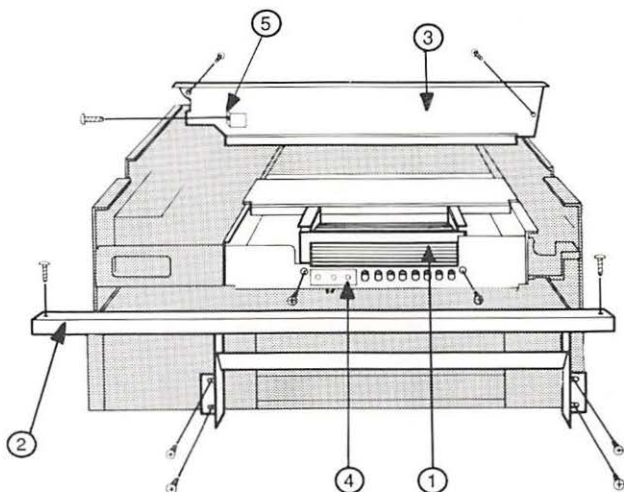

FIGURE 2-12
The fan is located along the left side of the upper main body (see Figure 2-12).
3. Remove the left side-frame (see Figure 2-12, #2) by removing its six silver screws.
4. To remove the fan cover (the metal plate above the fan, see Figure 2-12, #3), remove the three screws and lift the fan cover out of the chassis.
4. The optical sensor assembly is attached to the center of the left side of the printer (see Figure 2-12, #4). Remove the single screw and the small metal plate, press the plastic clips together, and lift the assembly out.